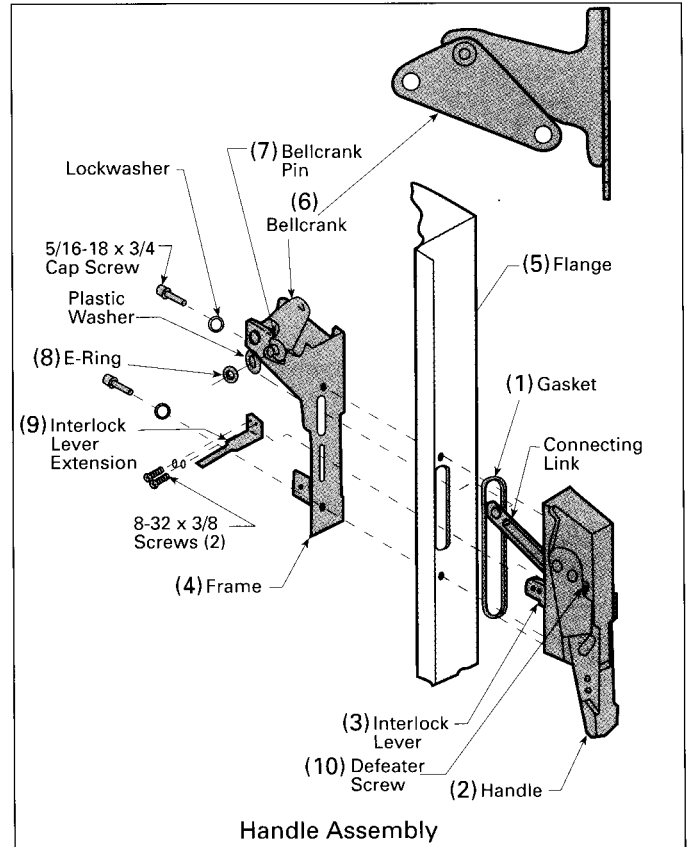

Figure 3
C. Mount the frame (4) and handle assembly to the enclosure flange (5) using two 5/16-18 x 3/4" button head cap screws and lockwashers. Tighten cap screws from within enclosure (Figure 3).
D. Place the plastic washer and connecting link onto the bellcrank pin (7). Secure the connection with the E-ring retainer supplied (8) (Figure 3).
E. Attach the interlock level extension (9) to the interlock level using two #8-32-3/8" screws and #8 lockwashers. Screws mount through the threaded lever extension into the lever. Tighten to 25 in-lbs. (Figure 3).
When the enclosure door is open, the operating handle cannot be moved from the OFF to ON position without deliberately defeating the interlock mechanism. In the OFF position, the interlock can be defeated by pushing the interlock level extension downward while moving the handle to the ON position. With the enclosure door open and the handle in the ON position, the interlock can be defeated by turning the defater screw (10) (Figure 3) on the operating handle. When the enclosure door is closed, the door latch mechanism automatically defeats the interlock.